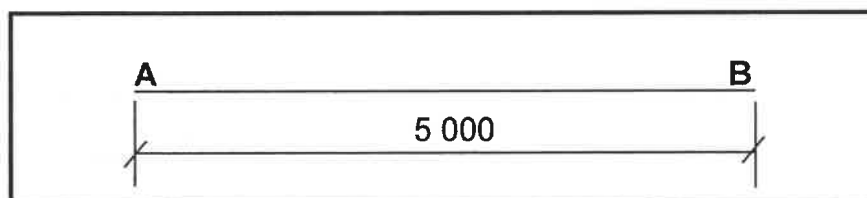

FIGURE 3.5
- 3.5 FIGURE 3.5 shows a drain pipe. Calculate the fall of the drainpipe between point A and B if the slope is 1 : 60.